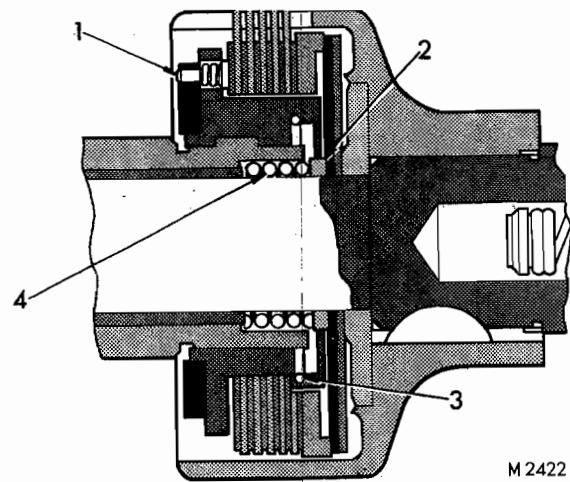

FIG. 7. SECTION THROUGH CLUTCH ASSEMBLY
2. Liberally smear the spring and thrust washer on the armature plunger (32) with grease. Insert the plunger into the bore of the armature and tighten the plunger retaining nut (33).
3. Insert the pressure plates (13), back plate (12) and shim washers (11) into the clutch outer race.
4. Lightly smear the clutch springs (9) with grease and insert them, (largest diameter first), into the holes in the clutch inner race (8).
5. Lightly grease the clutch plates (10) with grease and position them on the splines of the clutch inner race.
6. Assemble the clutch inner race complete with clutch plates and spring ring (see Fig. 7).
7. Grease the pinion spring (7) and slide it onto the armature shaft.
8. Grease the bore of the pinion (39) and insert the rubber sealing ring (when fitted) and shims (6).
9. Insert the pinion into the drive-end shield (38) using a rotary motion in the same direction as the pinion thread spiral, whilst the lubricating pad is lifted from inside the casting.